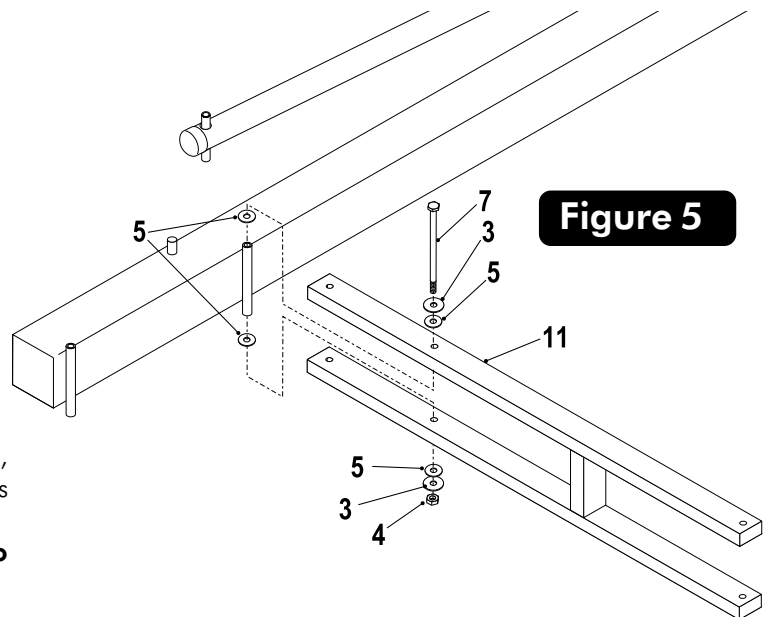

Figure 5
5. Attach lower arm (#11) to Pole (#2), as shown in Figure 5, using a bolt (#7), two flatwashers (#3), four plastic washers (#5) and hex nut (#4).